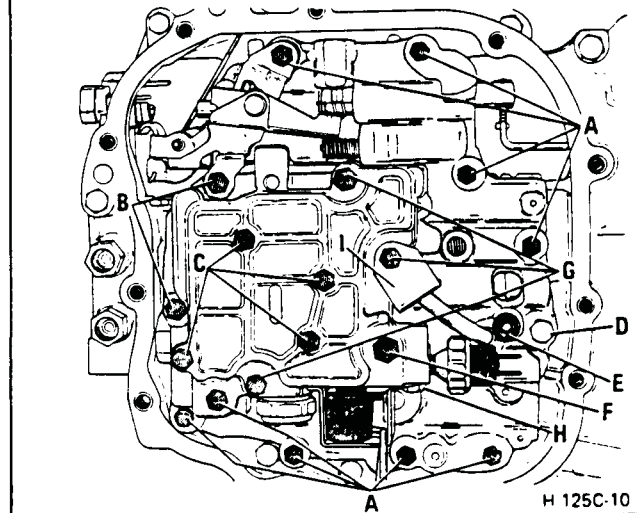

Figure 98 Valve Body Bolt Location
1. Check balls (16), numbers 2, 3, 4 and 5
2. Gasket (19)
3. Plate (20)
4. Gasket (19)
5. Check ball (16) number one – on spacer plate
6. Shaft (18) – through case cover
8. Body assembly (21) – onto case cover
9. Retainer (328)
10. Bolts (327). Refer to Figure 98.
11. Coat bolt "F" Figure 98 with thread sealer.
13. Link (22)
14. Bracket assembly (23) – engage link (22)
16. Remaining bolts (327)